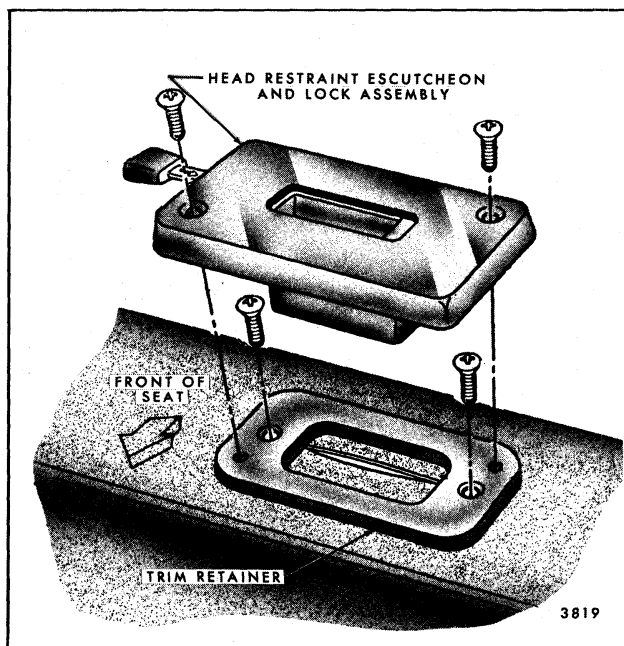

Fig. 9-56-Front Seat Back Head Restraint Retainer, Lock and Escutcheon - Full Width, 60-40, 50-50 and 40-40 Seats
2. Remove lock and escutcheon assembly attaching screws and remove lock and escutcheon (Fig. 9-56).
1. Remove front seat back and head restraint lock and escutcheon assembly as previously described. Remove trim retainer (see Fig. 9-56).